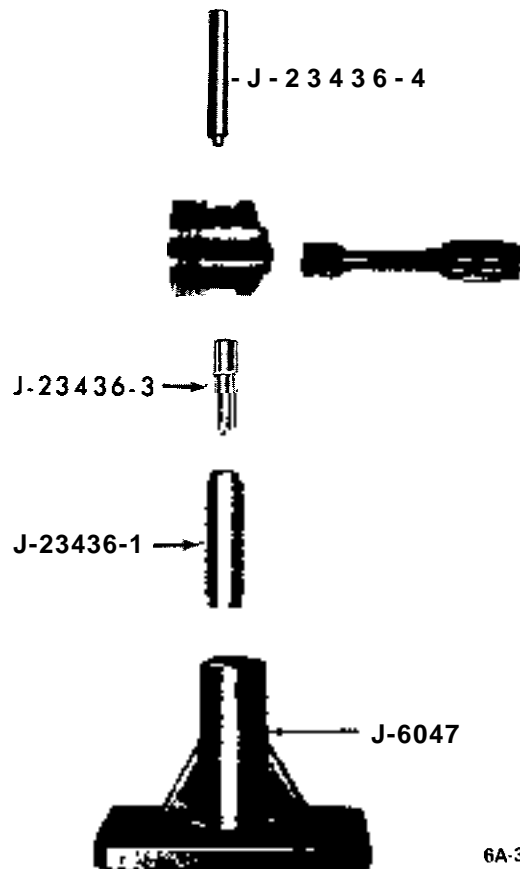

Figure 6A-37 Piston Pin Installation Tool Layout - 1.9 Engine
- e. Line up pin on piston, and using tool J-23436-4 press pin into piston. See Figure 6A-37.